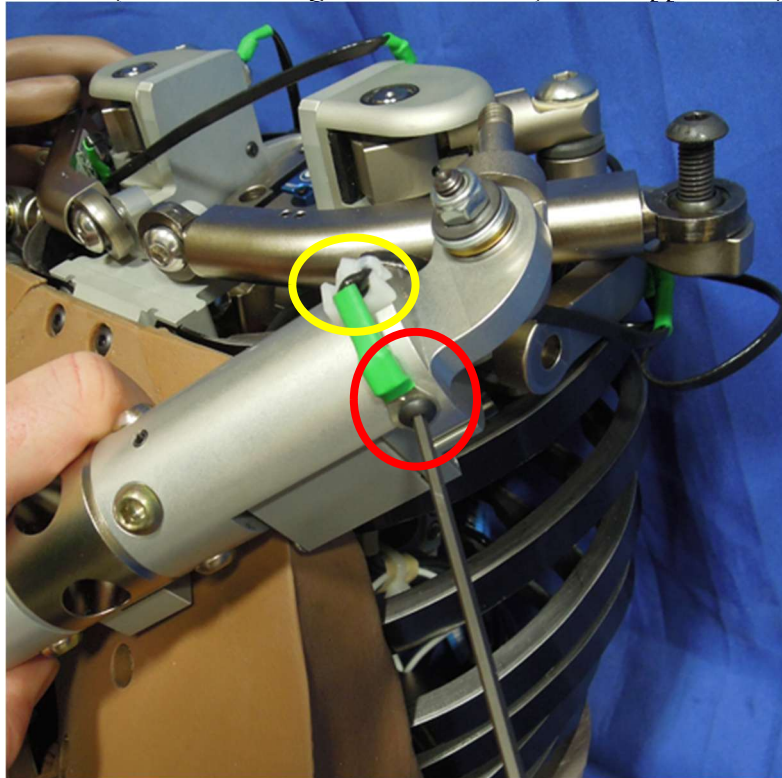

Figure 11-41. Attach a cable tie from the ground wire (yellow circle) and screw the ground wire (red circle) from the upper arm
- 11.3.17 Attach a cable tie to the ground wire (yellow circle in Figure 11-41 below) and screw the ground wire (red circle in Figure 11-41 below) to the upper arm (Figure 11-41).